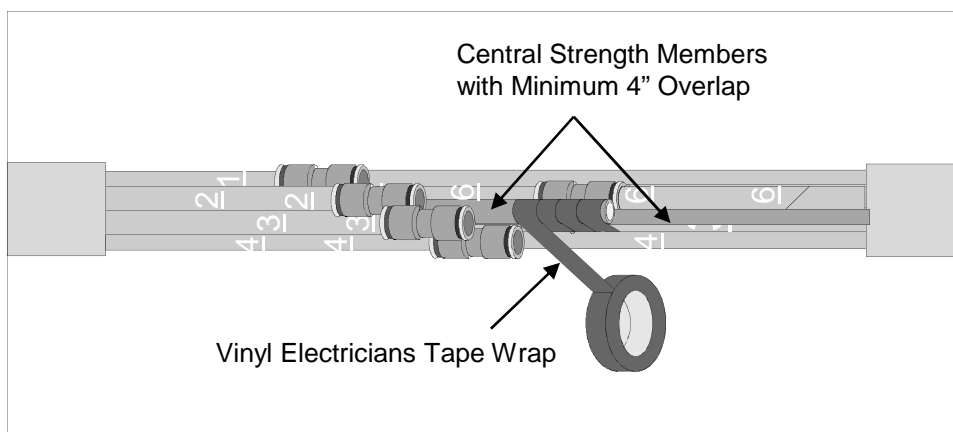

Figure 11
11.3 Use Vinyl Electricians Tape to thoroughly wrap the pair of strength members together. **See Fig. 11.**